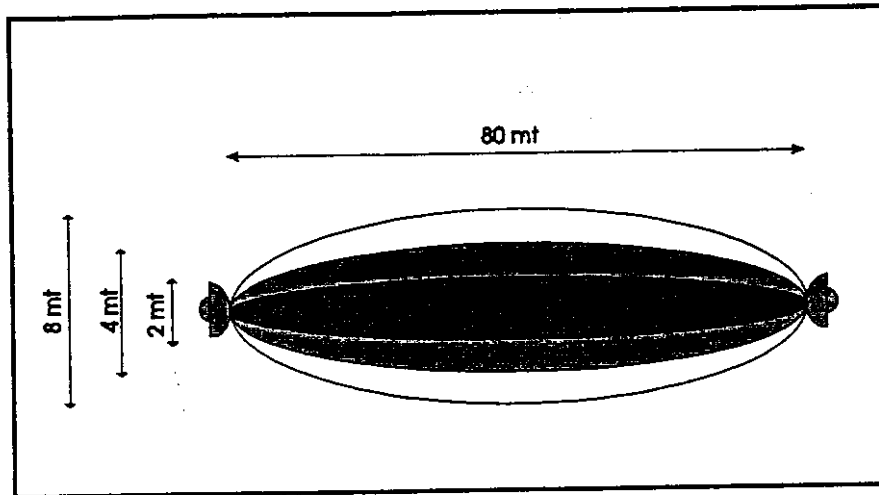

Figure 3 - Variation of the dimension of the sensitive zone on the variation of the sensitivity
- **The level of sensitivity set up on the receiver, according to a particular antenna, ensures that the microwave barriers can have a sensitivity to more or less intense disturbance signals. Bear in mind that the weaker signals come from more peripheral zones of the field, while the more intense signals come from central zones. Thus it is clear that the regulation of the sensitivity provokes a corresponding variation of the height and breadth of the field of protection. The length, on the other hand, is determined exclusively by the distance between transmitter and receiver (FIG. 3).**